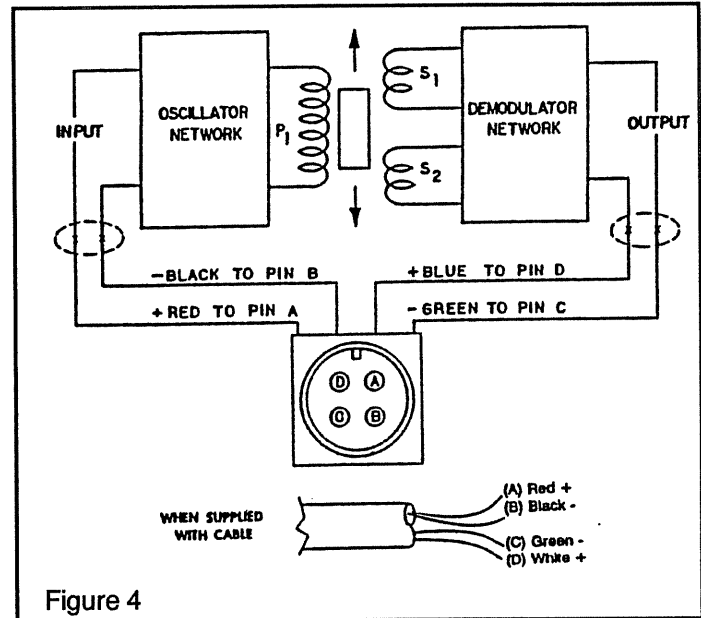

Figure 4
The electrical system consists of a Linear Variable Differential Transformer (LVDT) which converts the mechanical deflection of the Load Plate into a useful electrical output signal. (See Figure 4.) The movable core of the LVDT is mechanically coupled to the Load Plate by means of the Core Adjust Assembly. (See Figure 4.) This adjustment is factory set and is not accessible.
As illustrated in Figure 4, a DcLVDT consists of the following components:
3. Observing correct polarity, connect the positive (+) input lead to Pin A and the negative (-) input lead to Pin B. (See Figure 4.)
4. Connect the positive (+) output lead to Pin D and the negative (-) output lead to Pin C. (See Figure 4.)
2. Connect a voltmeter to Pins C and D (See Figure 4.)
To check, turn off power and disconnect the input and output leads. Check coil continuity and resistance. (Refer to Figure 4.)